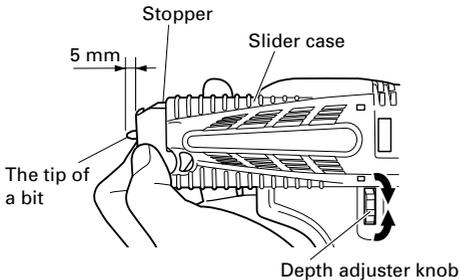

Fig. 2
2. Adjust the screw-in depth (Fig. 2)